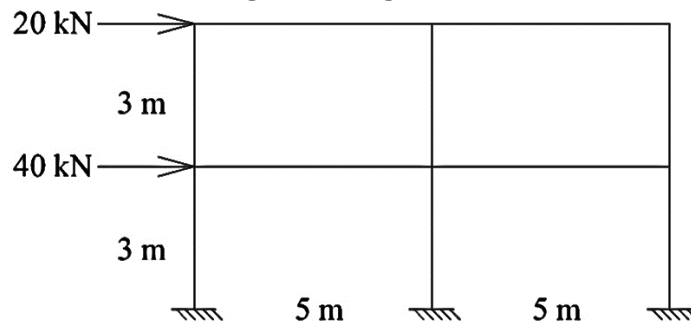

Fig. 1.3
3. Analyse a frame shown in Fig. 1.3 using cantilever method. Draw the BMD.